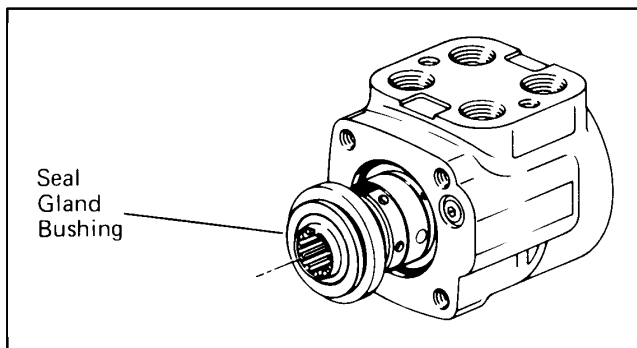

Figure 31
12. Rotate spool and sleeve until pin is horizontal. Push spool and sleeve assembly forward with your thumbs just far enough to free gland bushing from housing, see Fig. 31. Remove bushing.